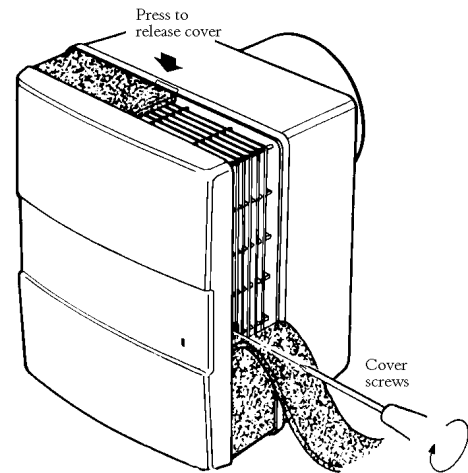

Fig. 3. Removing / Replacing the front cover and filter.
1. Remove cover/grille assembly by depressing the top & bottom retaining tabs. (fig. 3)
8. Fit the filter which is a push fit between the front cover and the body of the unit (fig. 3).
At all times take care not to damage, distort or disturb the balance of the impeller. Remove the filter and front cover as previously described. Remove the electronic control module. Spring aside the two clips and remove the fan module. Visually inspect all parts, replace any damaged items. Using a soft brush or dry cloth remove any dust and dirt from the fan module. Stubborn dirt may be removed by careful use of a soft scraper. Wash front cover in warm soapy water and dry thoroughly. Re-fit fan and electronic control module, replace front cover and secure with screws. Wash filter on tepid water to which a little mild detergent has been added. Shake out excess water and allow to dry naturally. Replace filter. Refit the retaining screws (fig 3). Test run the unit.